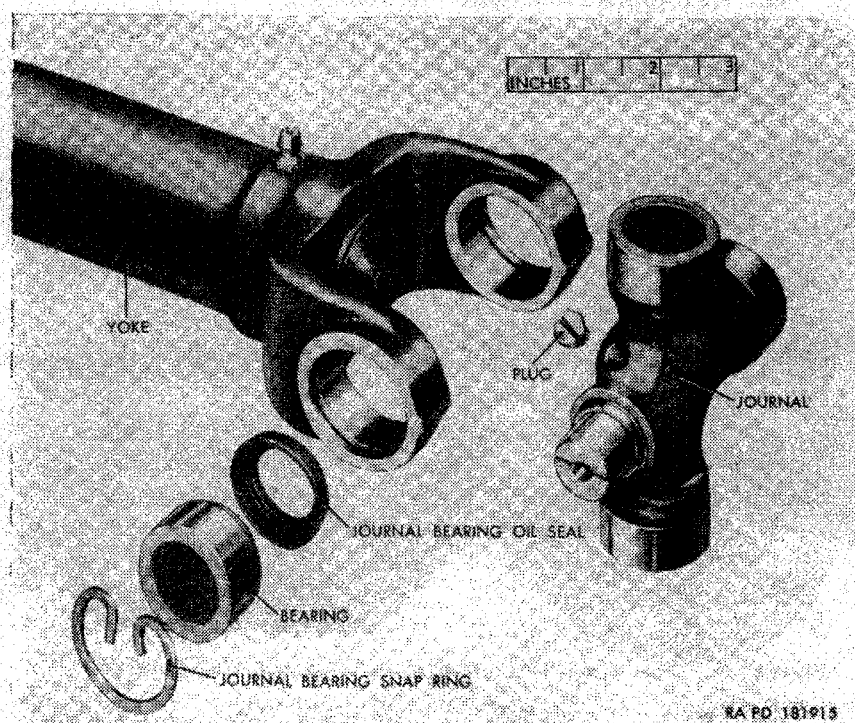

Figure 131. Front propeller shaft universal joint and yoke—partially exploded view.
a. *Front Propeller Shaft Universal Joints Disassembly* (fig. 131). Procedures for disassembly of both universal joints of the front propeller shaft with universal joints are the same.
- (1) Remove front propeller shaft with universal joints (par. 202a).
- (2) Remove the two loose journal bearings and oil seals from journal, being careful not to lose the rollers. Do not remove the plug.
- (3) Remove the two journal bearing snap rings from the yoke by squeezing the open ends of the ring together with pliers. Place a brass drift against the end of one of the bearings and drive the bearing into the yoke until the bearing on the opposite end of the journal is driven out of the yoke. Pull the protruding bearing and journal bearing oil seal from the
b. *Front Propeller Shaft Universal Joints Assembly* (fig. 131). Procedures for assembly of both universal joints of the front propeller shaft with universal joints are the same.
- (1) Push a journal bearing oil seal onto each of the two journal ends, convex side first. Insert the journal into the yoke holes.
- (2) Carefully start the two bearings onto the journal ends and into the yoke holes. Using a brass drift, carefully tap the bearings in until their outer ends are just inside the snap ring grooves in the holes. Install the two journal bearing snap rings by squeezing the ends together with pliers.
- (3) Push a journal bearing oil seal onto each of two journal ends, convex side first. Push a bearing onto each journal end.
- (4) Install the front propeller shaft with universal joints (par. 202b).